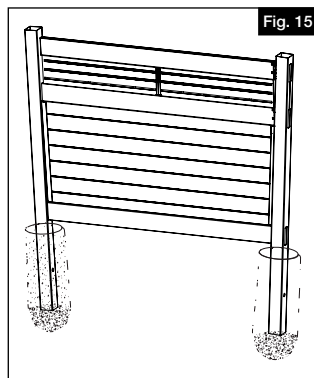

Fig. 15
- Install top rail to complete assembly (Fig 15).
Insert the completed fence panel into the route holes of the second fence post. Plumb and level the post and add concrete according to manufacturers instructions to top of hole (Fig. 15).